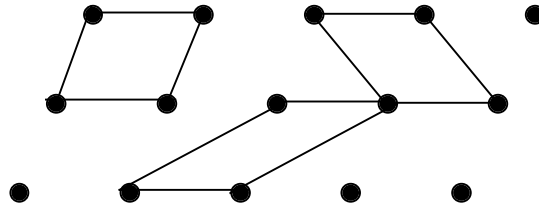

Figure 1.5: Examples of unit cells constructed from a given lattice
- (b) The patterns given in Fig.1.5 are examples of unit cells constructed from a given lattice.